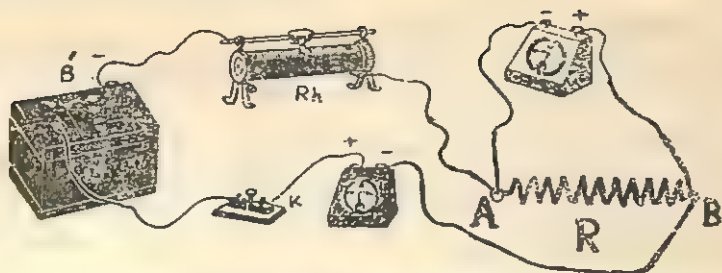

Fig. 12.12. Circuit arrangement for studying the  $V, I$  characteristic of a conductor  $AB$ .
(1) Arrange the apparatus on the working table in the laboratory and assemble the circuit connection as shown in Fig. 12.12.  $AB$  represents the experimental wire or coil. The ammeter is connected in series with the wire  $AB$  and the voltmeter is connected in parallel i.e. across  $AB$ . Note the zero errors of the ammeter and voltmeter, if any.
(2) Insert the plug key  $K$  and adjust the rheostat  $Rh$  to pass a small current in the resistance wire  $AB$ . Note the voltmeter and ammeter readings.
(3) Go on increasing the current step by step by adjusting the slide contact maker of the rheostat  $Rh$  and take about six sets of observation. Note the ammeter and voltmeter readings in each set. Tabulate the observations as detailed below.